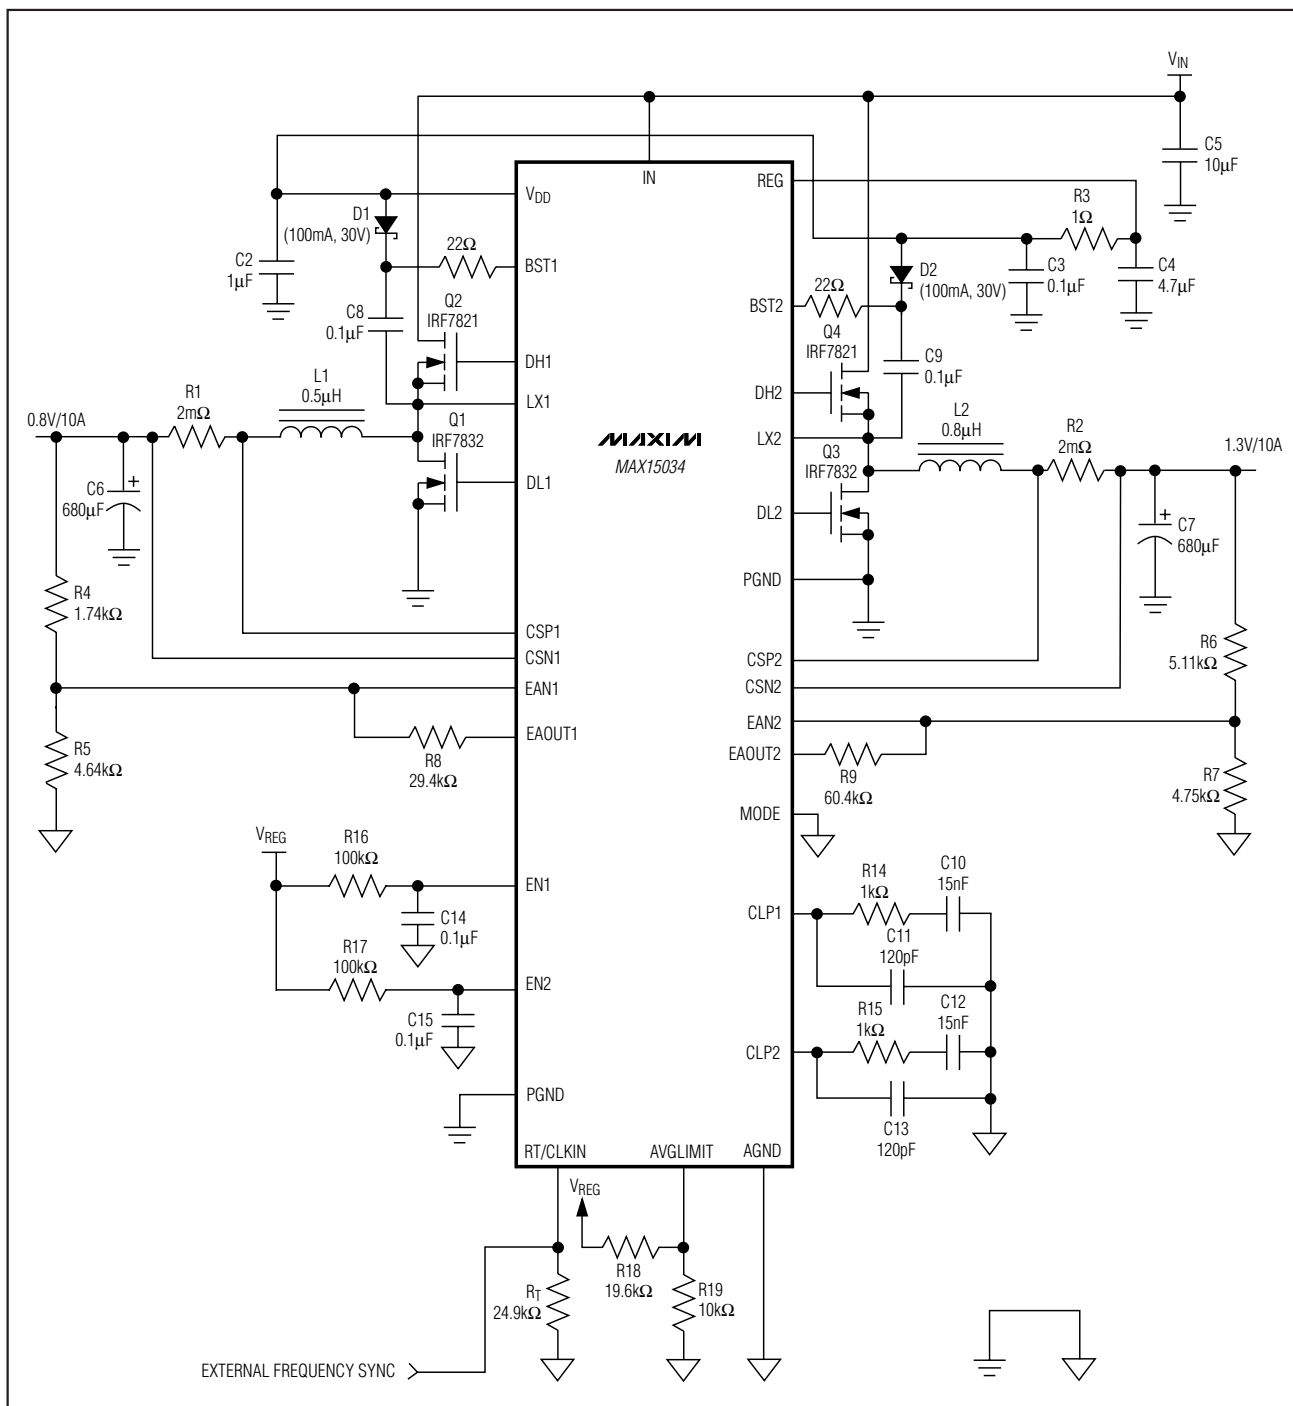
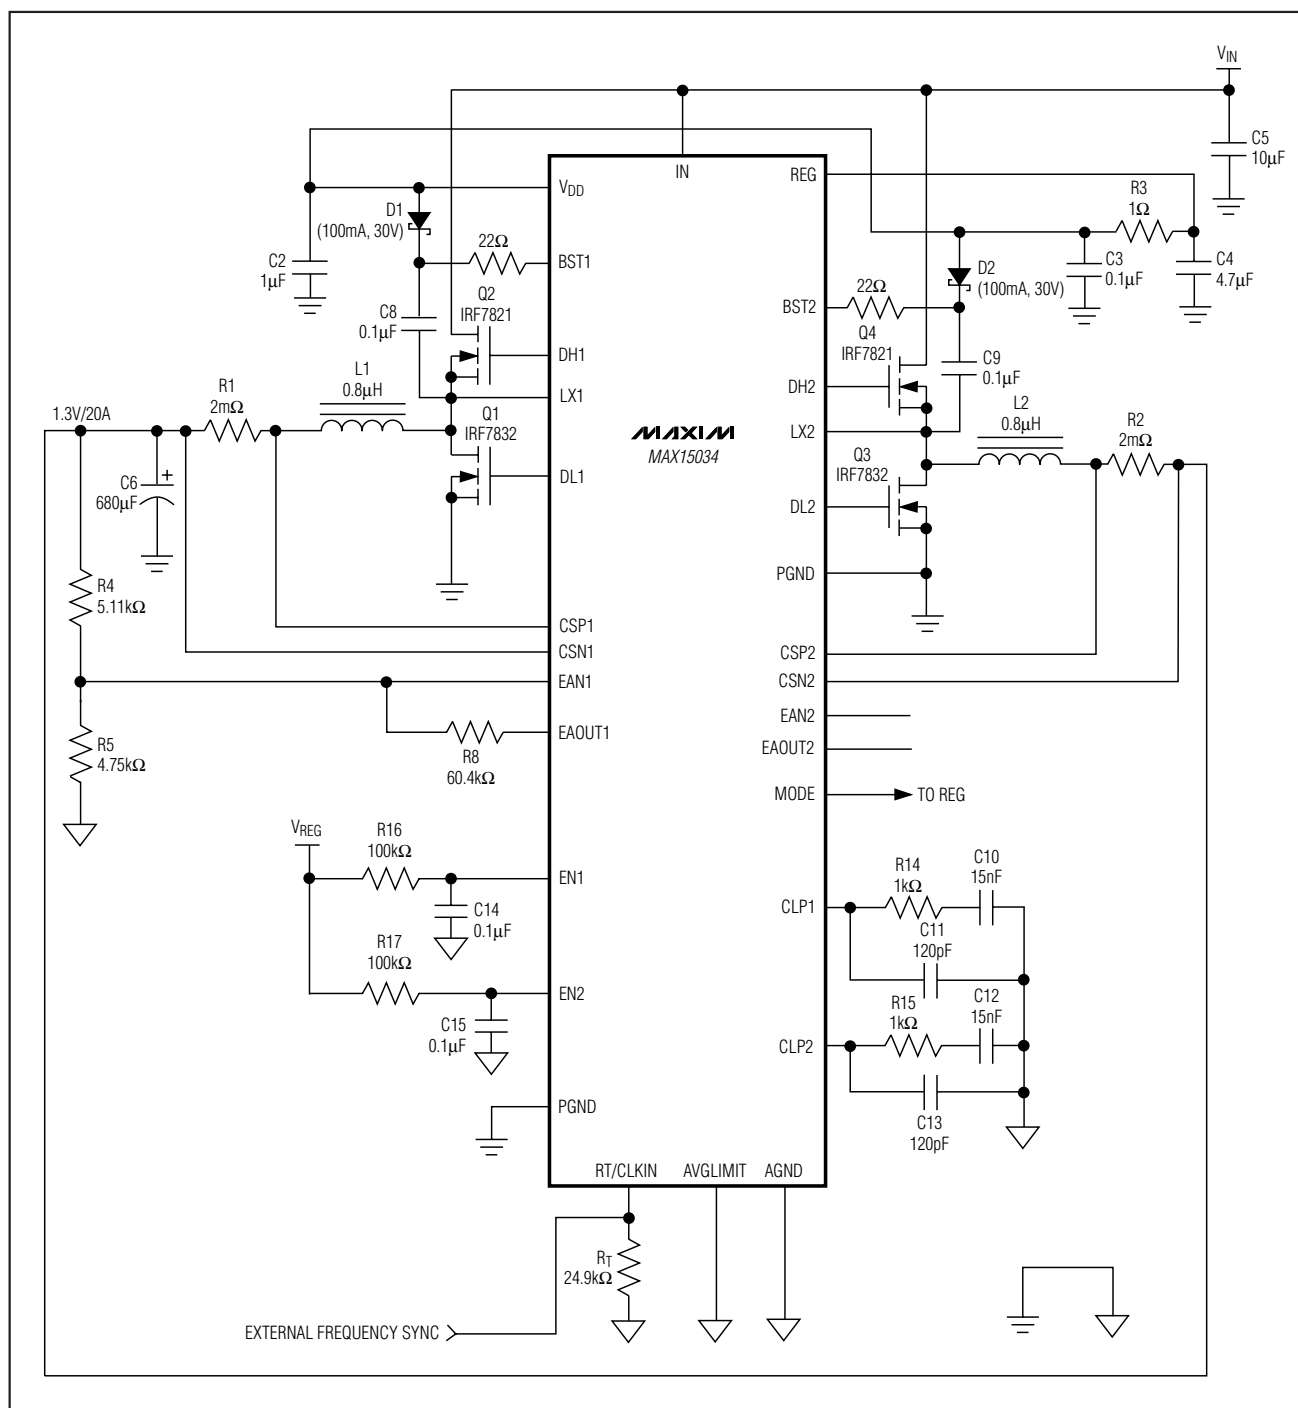

Figure 6. Dual-Output Buck Regulator
Figure 7. Dual-Phase, Single-Output Buck Regulator
where IIN is the quiescent supply current into IN (4mA, typ), QGQ1, QGQ2, QGQ3, QGQ4 are the total gate charges of MOSFETs Q1 through Q4 at VGS = 5V (see Figure 6), and fSW is the switching frequency of each individual phase.
BST1 and BST2 supply the power for the high-side MOSFET drivers for output 1 and output 2, respectively. Connect BST1 and BST2 to VDD through rectifier diodes D1 and D2 (see Figure 6). Connect a 0.1μF ceramic capacitor between BST_ and LX_.
Minimize the trace inductance from BST_ and VDD to the rectifier diodes, D1 and D2, and from BST_ and LX_ to the boost capacitors, C8 and C9 (see Figure 6). This is accomplished by using short, wide trace lengths.
The compensation network at the current-error amplifiers (CLP1 and CLP2) provides an inherent soft-start of the output voltage. It includes (R14 and C10) in parallel with C11 at CLP1 and (R15 and C12) in parallel with C13 at CLP2 (see Figure 6). The voltage at the current-error amplifier output limits the maximum current available to charge the output capacitors. The capacitor at CLP_ in conjunction with the finite output-drive current of the current-error amplifier yields a finite rise time for the output current and thus, the output voltage.
An internal oscillator generates the 180° out-of-phase clock signals required for both PWM modulators. The oscillator also generates the 2Vp-p voltage ramps necessary for the PWM comparators. The oscillator frequency can be set from 200kHz to 2MHz by an external resistor (RT) connected from RT/CLKIN to AGND (see Figure 6). The equation below shows the relationship between RT and the switching frequency:
cycle is less than 50%, choose high-side MOSFETs (Q2 and Q4, Figure 6) with a moderate $R_{DS(ON)}$ and a very low gate charge. Choose low-side MOSFETs (Q1 and Q3, Figure 6) with very low $R_{DS(ON)}$ and moderate gate charge. The driver block also includes a logic circuit that provides an adaptive nonoverlap time (30ns typ) to prevent shoot-through currents during transition. Figure 7 shows the dual-phase, single-output buck regulator.
where I_{MAX} is the full load current of the regulator. V_{OUT} is the output voltage of the same regulator and C_{IN} is C5 in Figure 6. The ESR of the input capacitors wastes power from the input and heats up the capacitor. Reducing the ESR is important to maintain a high overall efficiency and in reducing the heating of the capacitors.
where I_{LOAD_STEP} is the step in load current and $t_{RESPONSE}$ is the response time of the controller. Controller response time depends on the control-loop bandwidth. C_{OUT} is C6 and C7 in Figure 6.